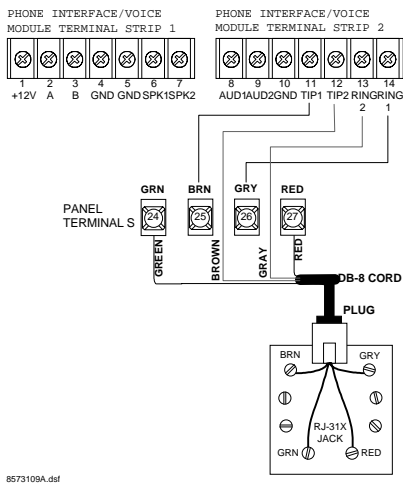

FIGURE 2-17. Wiring the Phone Connection.
2. Connect the phone line to the module through the panel terminals and DB-8 cord (from an RJ-31X jack as shown in Figure 2-17).